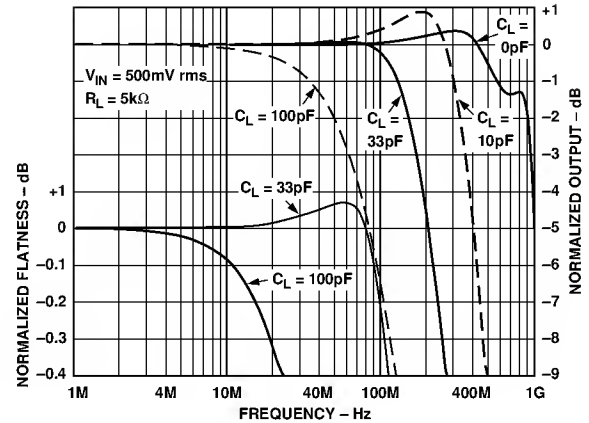

Figure 19. Frequency Response vs. Capacitive Load
- ⁴Decreasing R_L lowers the bandwidth slightly. Increasing C_L lowers the bandwidth considerably (see Figure 19).